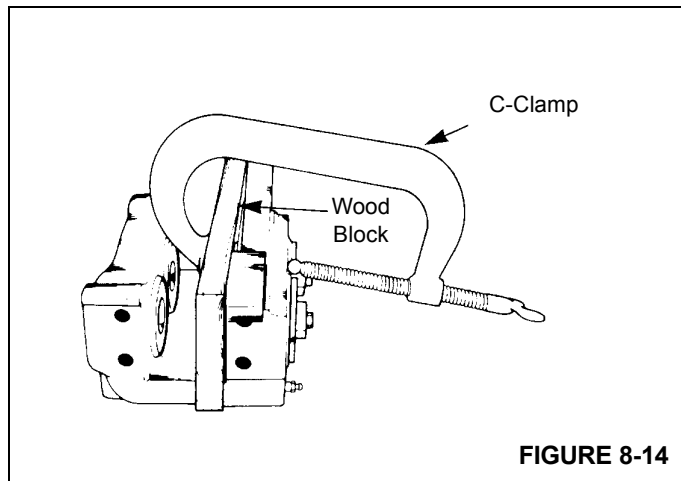

FIGURE 8-14
- a. Use a C-clamp to hold a 0.5 in (12.7 mm) block of wood against two pistons on the mounting side of the housing. Ensure the C-clamp is not in the area in front of the piston bore (Figure 8-14).